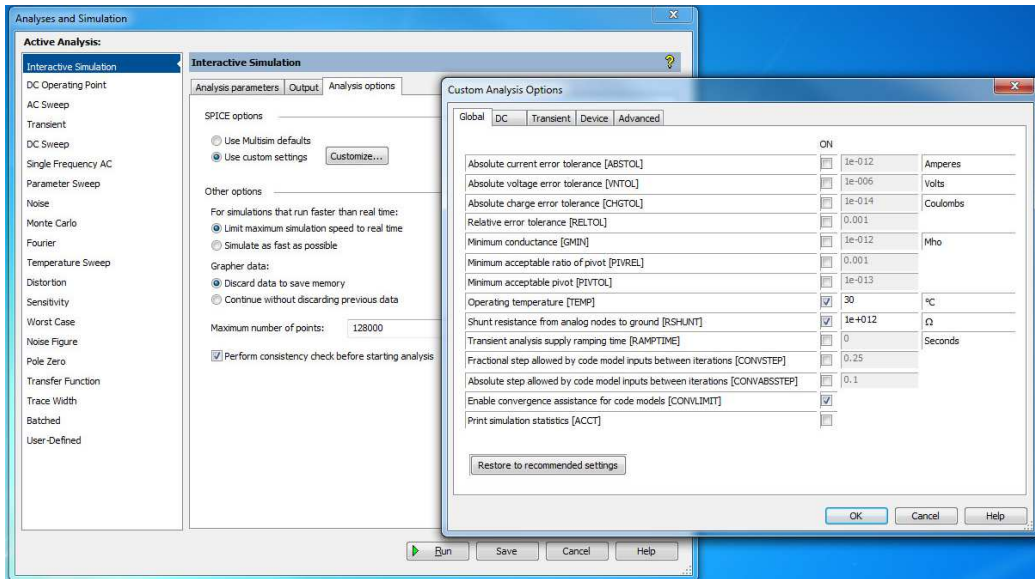

FIGURE 1 –
1. Start *Multisim* and set the simulation temperature to that which has been assigned to you. To do so, click on the tab **Simulate > Analyses and Simulation** to open the window shown in figure 1. Proceed as in the figure to set the operating temperature parameter **TEMP**.